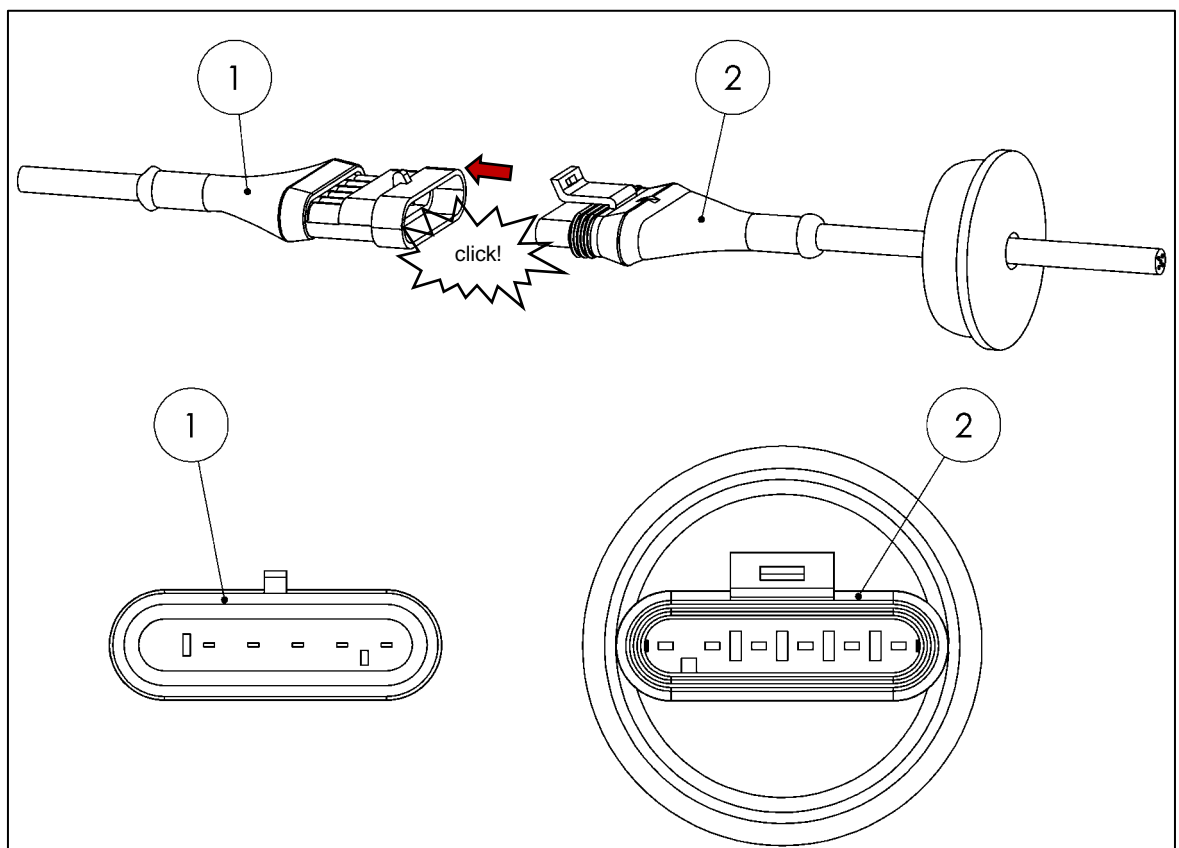

Fig. 62
- Connect the platform cable connector (1) to the control unit connector (2) (see Fig. 62)